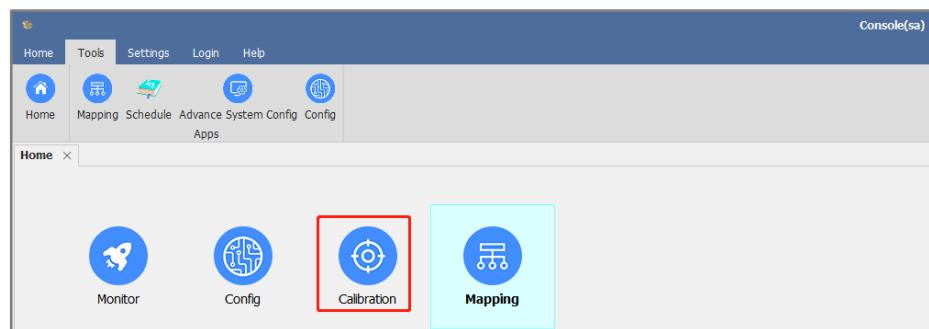

Figure 17-2 Enter the Calibration Screen from the Console
- 2) Second, under the Console application, double-click the "Calibration" icon on the home page to open the calibration screen, as shown in Figure 17-2.
- 1) To start manual calibration, please click the “Calibration” icon to enter the calibration screen using one of the methods shown in Figure 17-1 or Figure 17-2.